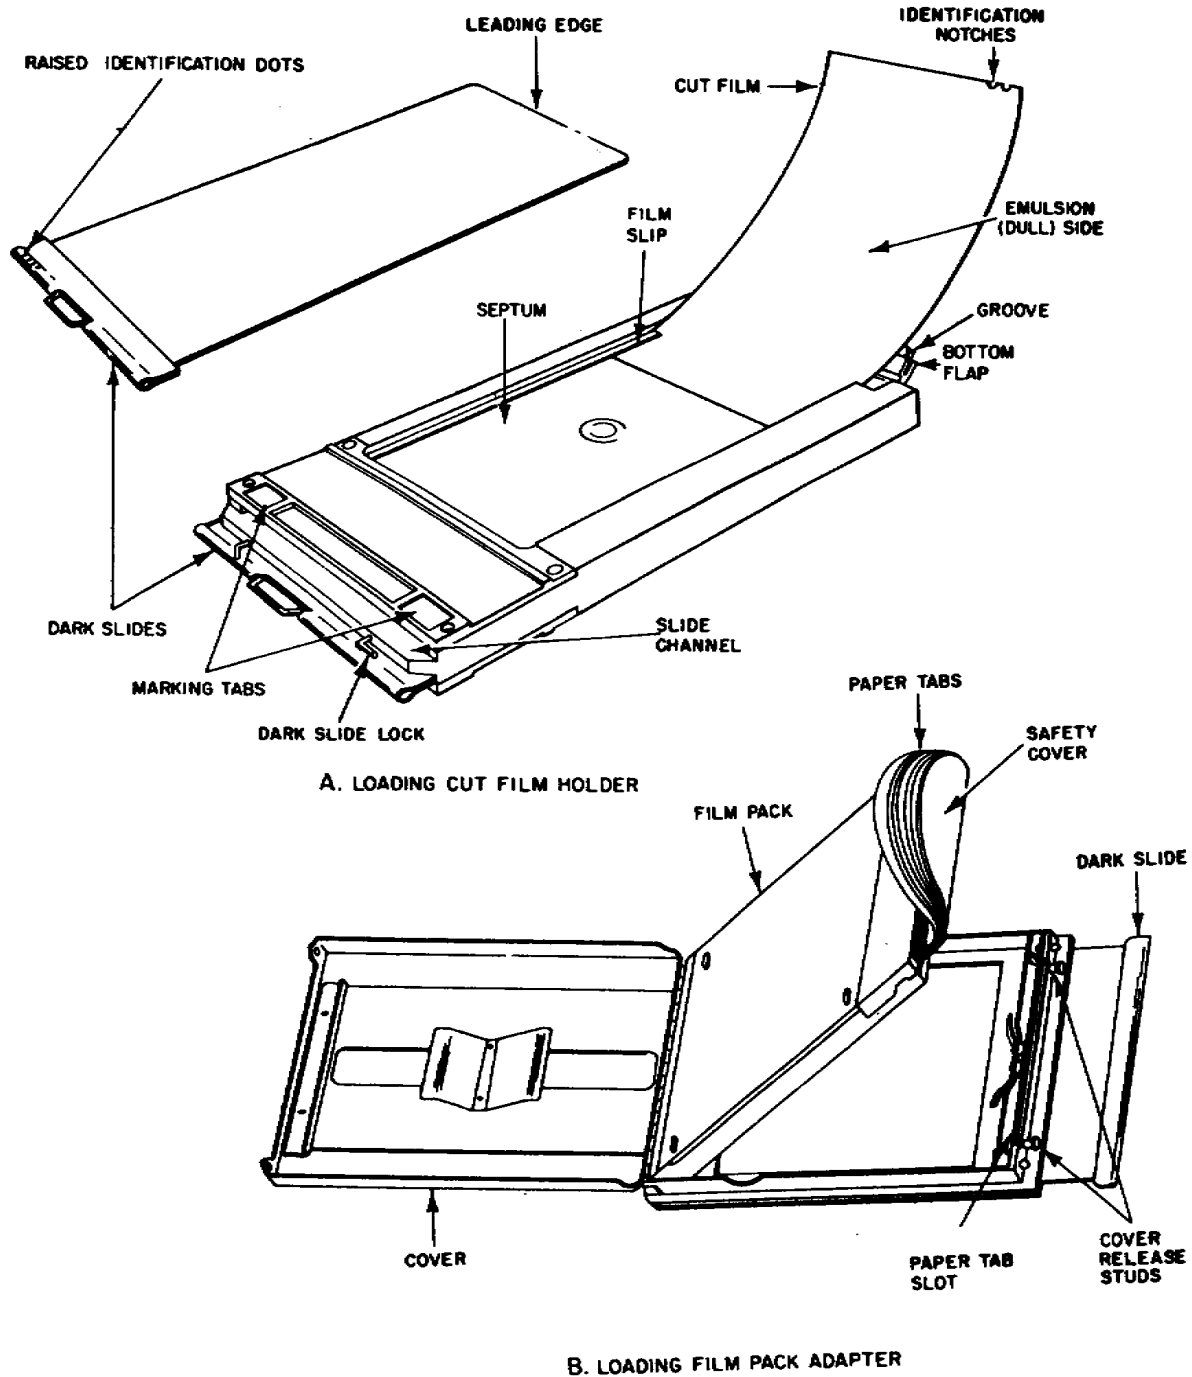

FIGURE 8. Loading cut film holder and film pack adapter.
e. Cut film holders and film pack adapter. The dark slides of the cut film holders and the film pack adapter have raised identification dots (figure 8) for slide identification in the dark. Each cut film holder accepts two sheets of 4" x 5" sheet film. The film pack adapter accepts one 4" x 5" film pack containing 16 sheets of film.
a. Loading cut film holders (A, figure 8). Load the cut film holders only in a darkroom. Panchromatic film must be handled in total darkness: Other films may be handled in a darkroom equipped with recommended safelight.
(1) Withdraw the dark slide from the cut film holder.
(2) Swing the bottom flap out to open the bottom of the cut film holder.
(3) Grasp a sheet of cut film by the edges so that the emulsion (dull) side is up and the identification notches are in the upper right-hand corner as shown.
(4) Slip the corners of the unnotched shorter edge of the cut film under the film slips (along each long side of the septum) and slide the cut film completely into the cut film holder.
(5) Swing the bottom flap closed and hold down firmly.
(6) Insert the dark slide into the slide with the channel so that the raised identification dots face away from the cut film holder.
(7) Push the dark slide all the way into the cut film holder; make sure the end of the leading edge of the dark slide engages the groove along the edge of the bottom flap.
(8) Turn the slide hook over the end of the dark slide to prevent accidental removal of the dark slide.
(9) Load the reverse side of the cut film holder by repeating the procedures in (1) through (8) above.
(10) Load additional cut film holders by repeating the procedures in (1) through (9) above.
b. Loading film pack adapter (B, figure 8). The film pack adapter may be loaded under existing lighting conditions. Do not expose the film pack to direct sunlight during loading.
(1) Make sure the dark slide is inserted in the film pack adapter.
(2) Simultaneously press the two cover release studs to open the cover.
(3) Unwrap the film pack and insert in the film pack adapter as shown.